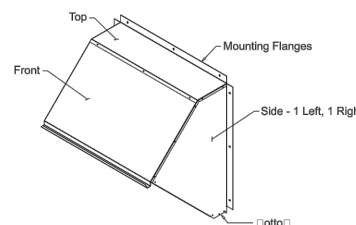

Figure 2 — Assembly Parts
1. Identify parts for assembly, 1 top, 1 front, 2 sides, 1 bottom and 1 birdscreen. See Figure 2.